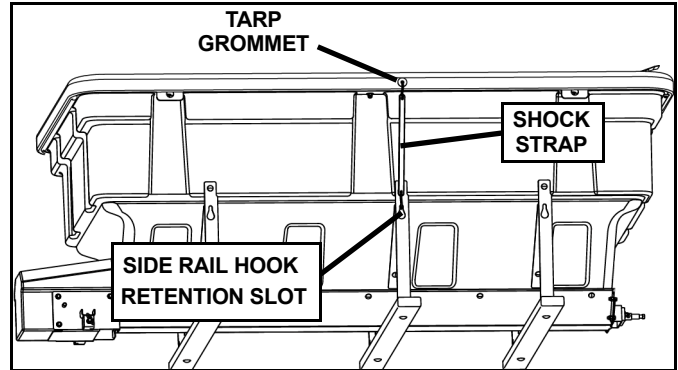

Figure 12
10. RVB 1500, 2000, 2500 & 3000 Only: Install a rubber shock strap on both sides of the tarp, connected to the center tarp grommet and the frame side rail hook retention slots. (See Figure 12.)